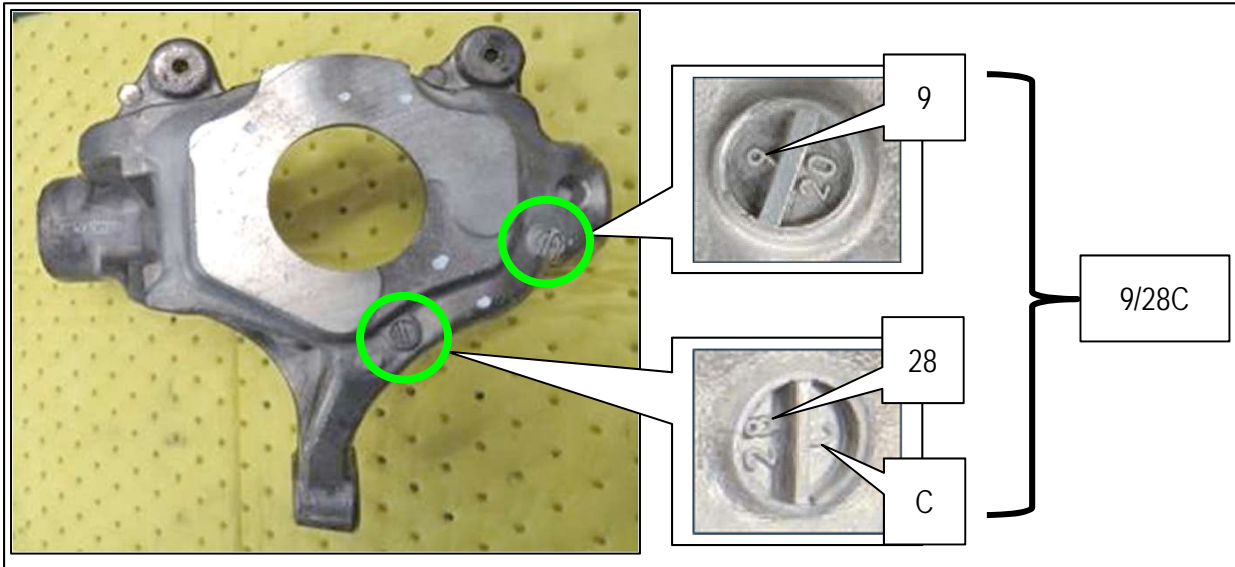

Figure 28
18. Locate the casting stamp dates on each suspension knuckle, where indicated in Figure 28.